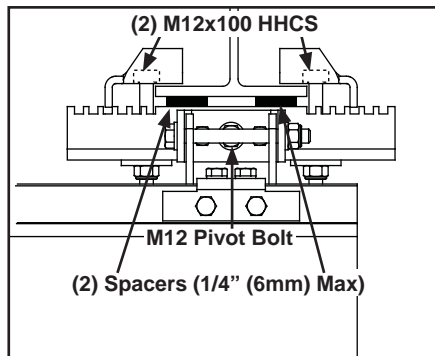

Figure 3-35
- Step 2. If leveling is required, loosen M12 x 100 mm HHCS , I-Beam bracket bolt and insert spacers, maximum 1/4 in (6 mm), between I-Beam bracket and bottom flange of I-Beam. See Figure 3-35
- Step 3. Install two (2) M10 x 110 mm HHCS with M10 nylock nuts. **Tighten until bolts are snug + 1/4 turn.** Do not over tighten. Over tightening could cause bracket to bend.